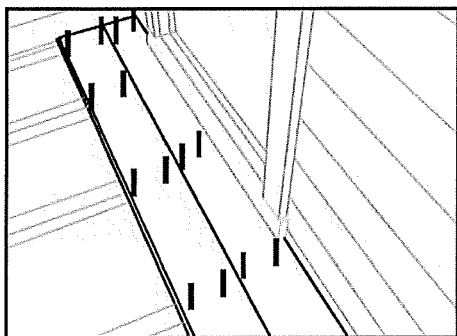

FIG 18
12. On the underside of the outside corners (fig 18 ) neatly cut, fold and secure using 1x felt nail.